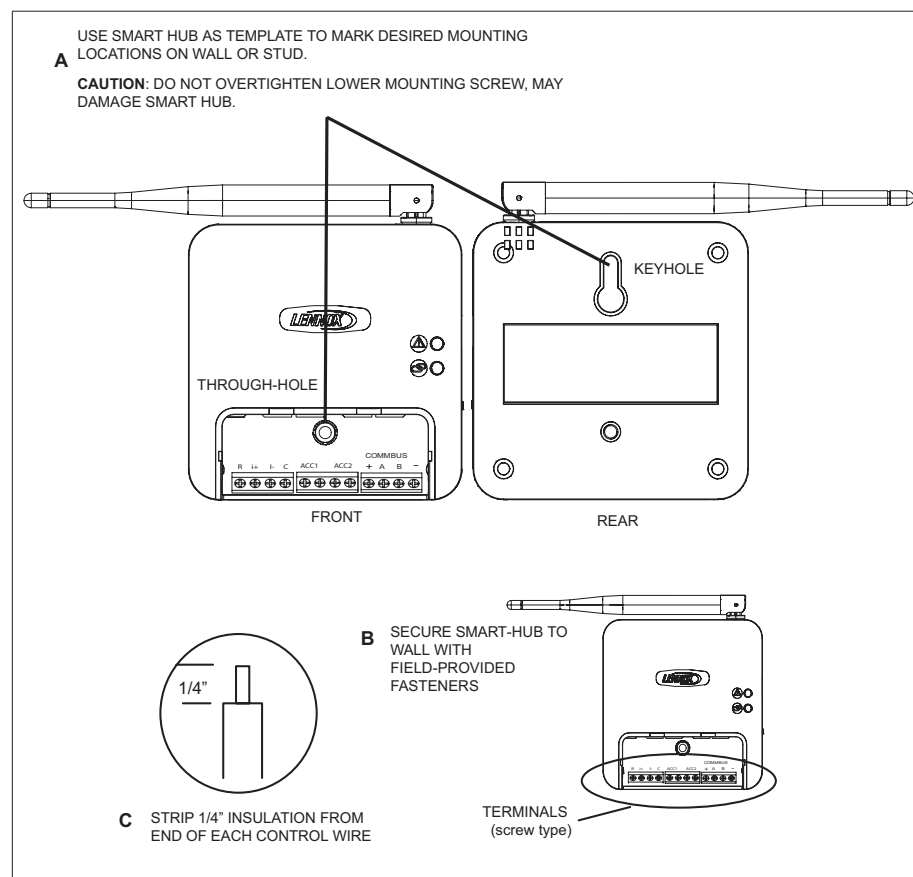

Figure 17. Smart Hub Installation
2. Use the procedure outlined in “Figure 17. Smart Hub Installation” on page 17 to install the smart hub controller.